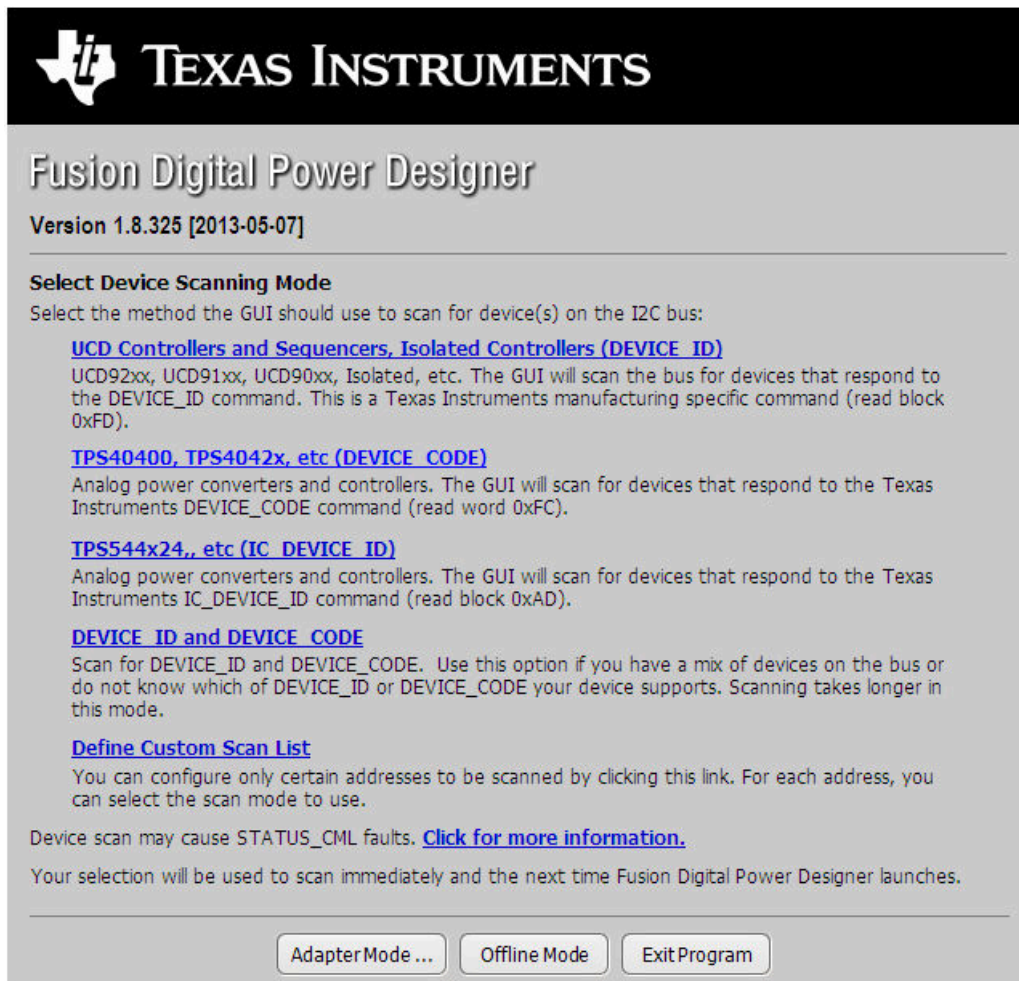

Figure 7-1. Select Device Scanning Mode
9. Double click on the *TPS40400*, *TPS4042x*, *ect (DEVICE CODE)* from the *Select Device Scanning Mode* window as shown in Figure 7-1.